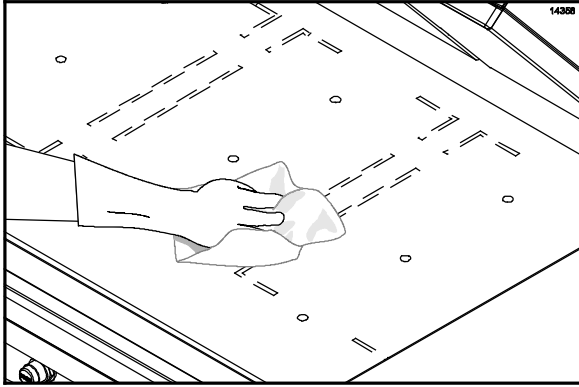

Figure 110
44. Wipe the lower grill surface with a clean, sanitizer-soaked grill cloth. Repeat, until no visible soil remains. (See Figure 110.)